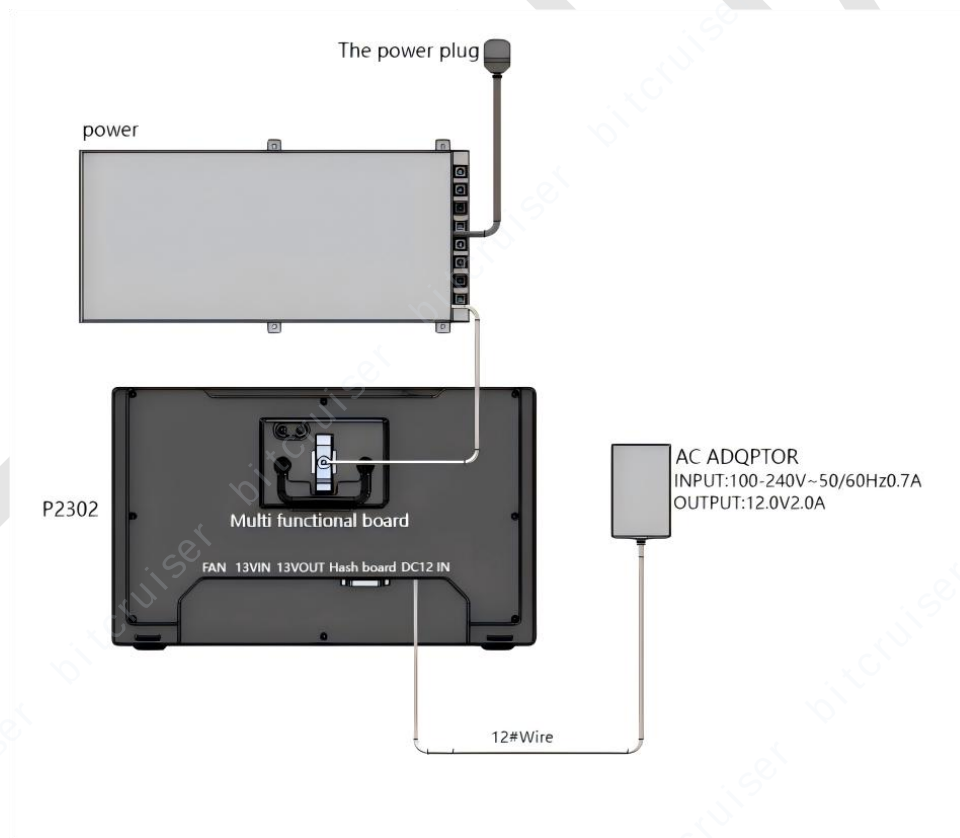

Fig 4.6 PSU Test Connection Diagram
Step 2: Use the 5# wire to connect the voltage regulation interface of the PSU to the test interface on the multi-function expansion board (located on the rear of the instrument). The specific connection diagram is shown in Fig 4.6.